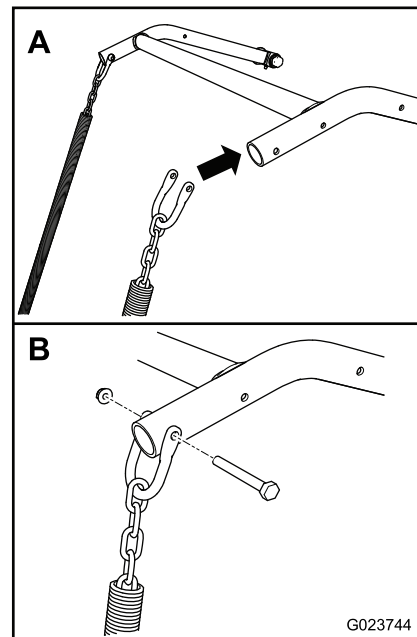

Figure 14
4. Align each shackle to the appropriate side of the attachment lift on the machine (Figure 14).